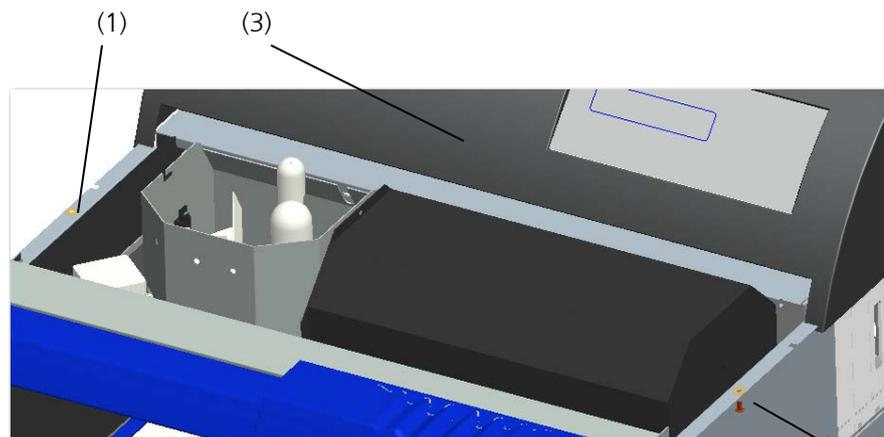

Fig. 7: Remove the Top – cover
- Remove the screws (1) and (2) of the Top-cover (3)
- Lift up the Top-cover and place it on the backside as shown in Fig.7 make sure the panel ribbon cable does not get disconnected